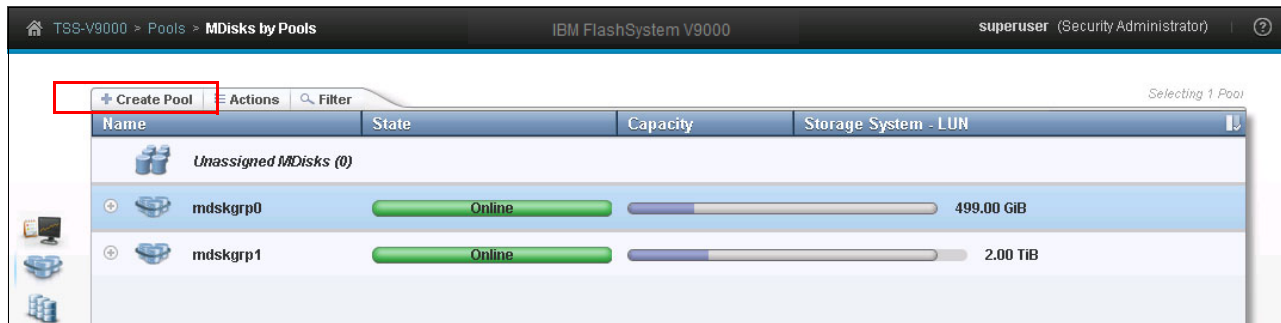

Figure 8-67 Selecting the option to create a new storage pool
1. Select **Pools** → **MDisks by Pools**. The MDisks by Pools view opens. Click **Create Pool** (Figure 8-67).